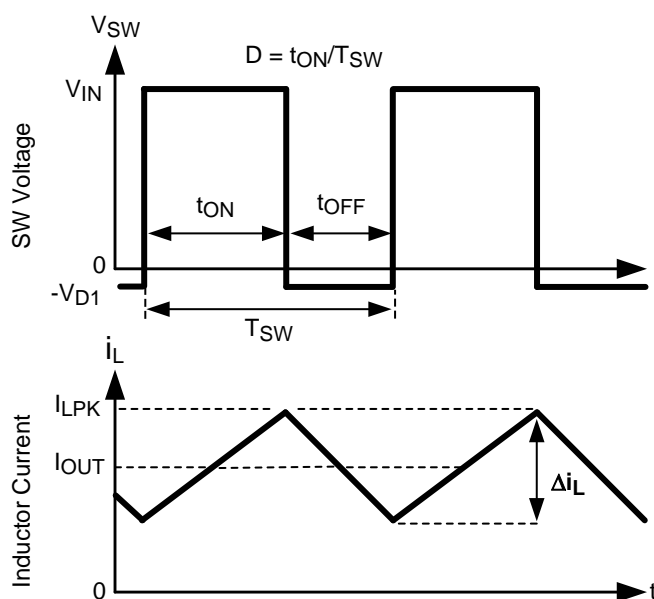

Figure 27. LMR12015/20 Waveforms of SW Pin Voltage and Inductor Current
The following operating description of the LMR12015/20 will refer to the Block Diagram and to the waveforms in Figure 27. The LMR12015/20 supplies a regulated output voltage by switching the internal NMOS switch at a constant frequency and varying the duty cycle. A switching cycle begins at the falling edge of the reset pulse generated by the internal oscillator. When this pulse goes low, the output control logic turns on the internal NMOS switch. During this on-time, the SW pin voltage (V_{SW}) swings up to approximately V_{IN} , and the inductor current (i_L) increases with a linear slope. The current-sense amplifier measures i_L , which generates an output proportional to the switch current typically called the sense signal. The sense signal is summed with the regulator's corrective ramp and compared to the error amplifier's output, which is proportional to the difference between the feedback voltage (V_{FB}) and V_{REF} . When the output of the PWM comparator goes high, the switch turns off until the next switching cycle begins. During the switch off-time (t_{OFF}), inductor current discharges through the catch diode D1, which forces the SW pin (V_{SW}) to swing below ground by the forward voltage (V_{D1}) of the catch diode. The regulator loop adjusts the duty cycle (D) to maintain a constant output voltage.
During a normal switching cycle, when the internal NMOS control switch is off (t_{OFF}) (refer to Figure 27), V_{BOOST} equals V_{LDO} minus the forward voltage of the internal diode (V_{D2}). At the same time the inductor current (i_L) forward biases the catch diode D1 forcing the SW pin to swing below ground by the forward voltage drop of the catch diode (V_{D1}). Therefore, the voltage stored across C_{BOOST} is
Inductor selection is critical to the performance of the LMR12015/20. The selection of the inductor affects stability, transient response and efficiency. A key factor in inductor selection is determining the ripple current (Δi_L) (see Figure 27).